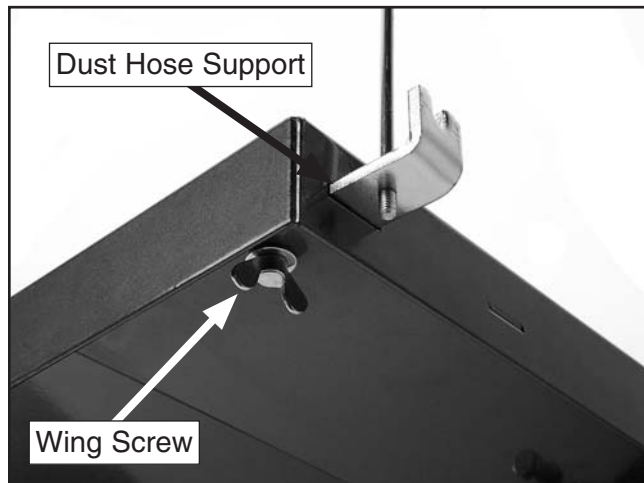

Figure 32. Dust hose support attached.
- 28. Connect the dust hose support to the underside of the extension table with the wing screw (**Figure 32**).